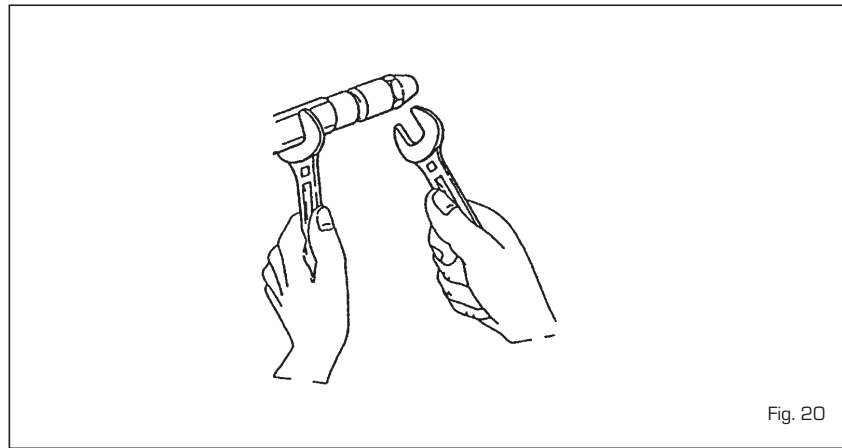

Fig. 20
4.4.3 Substitution of nozzle (fig. 20)
- Block the spray door using a n°19 spanner and unscrew the nozzle with a n°16 spanner (fig. 20).